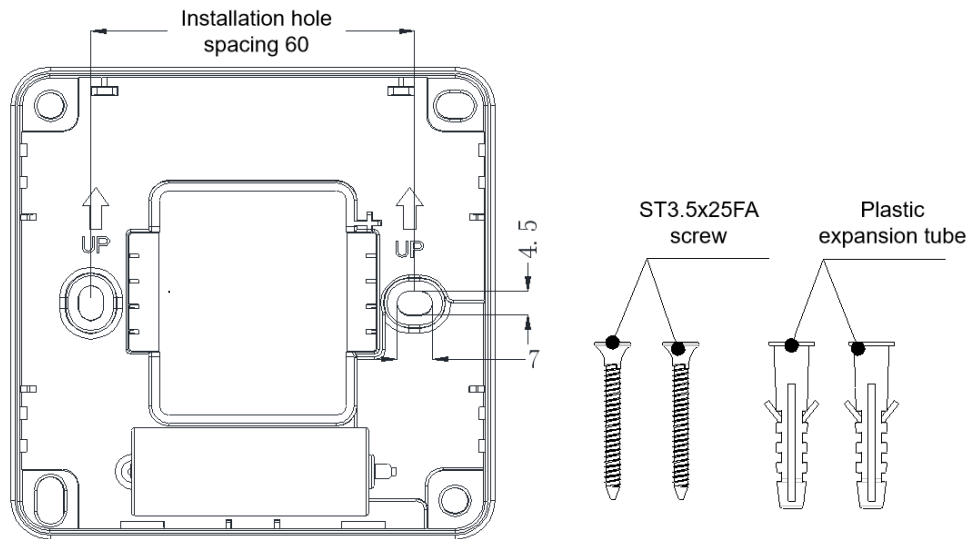

Figure 2: Wireless input/output module base and mounting accessories
2. Schematic of wireless I / O module base dimensions as shown in Figure 2 (unit: mm)